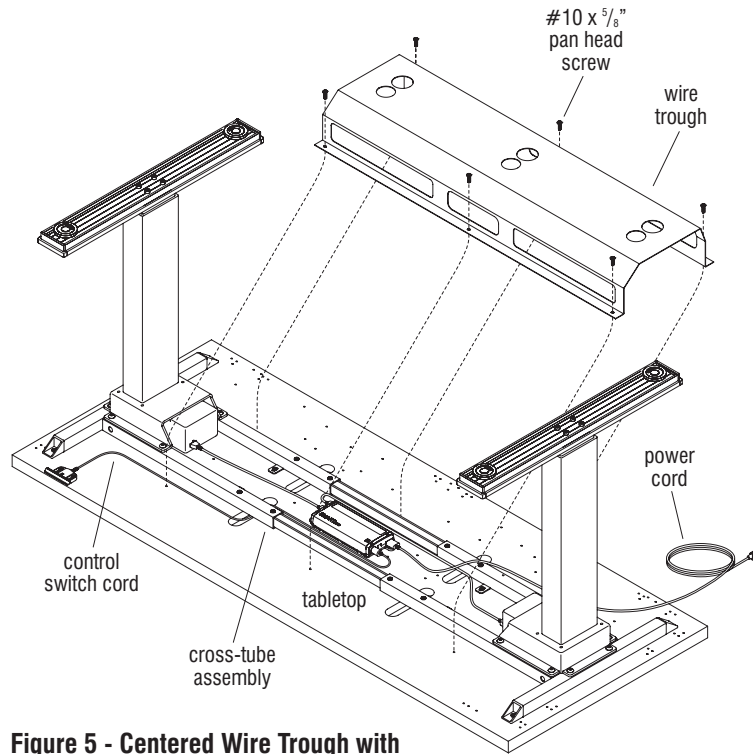

Figure 5 - Centered Wire Trough with Control Box Between Cross-Tube Assembly
Note: Control cables can be routed differently than shown. The control box can be mounted to the underside of tabletops 24" in depth between the cross-tube assembly (Figure 5). Control boxes mounting under tabletops 30" or 36" in depth can mount in one of three mounting locations. If the control box is mounted between the cross-tube assembly, reference Figure 5 for placement of the wire trough. If the control box is mounted behind the cross-tube assembly, reference Figure 6.
1. Align the wire trough mounting holes to the appropriate mounting holes in the tabletop, making sure the larger cutouts on the trough are facing the user side of the table. Using six #10 x 5/8" pan head screws, secure the wire trough to the tabletop as illustrated (Figures 5 & 6).